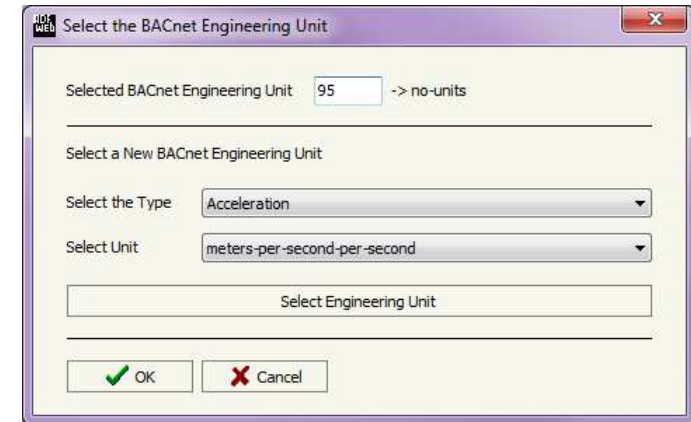

Figure 7: "Select the BACnet Engineering Unit" window
- In the field “**Eng. Unit**”, with double click the window “*Select the BACnet Engineering Unit*” appears (Fig. 7);